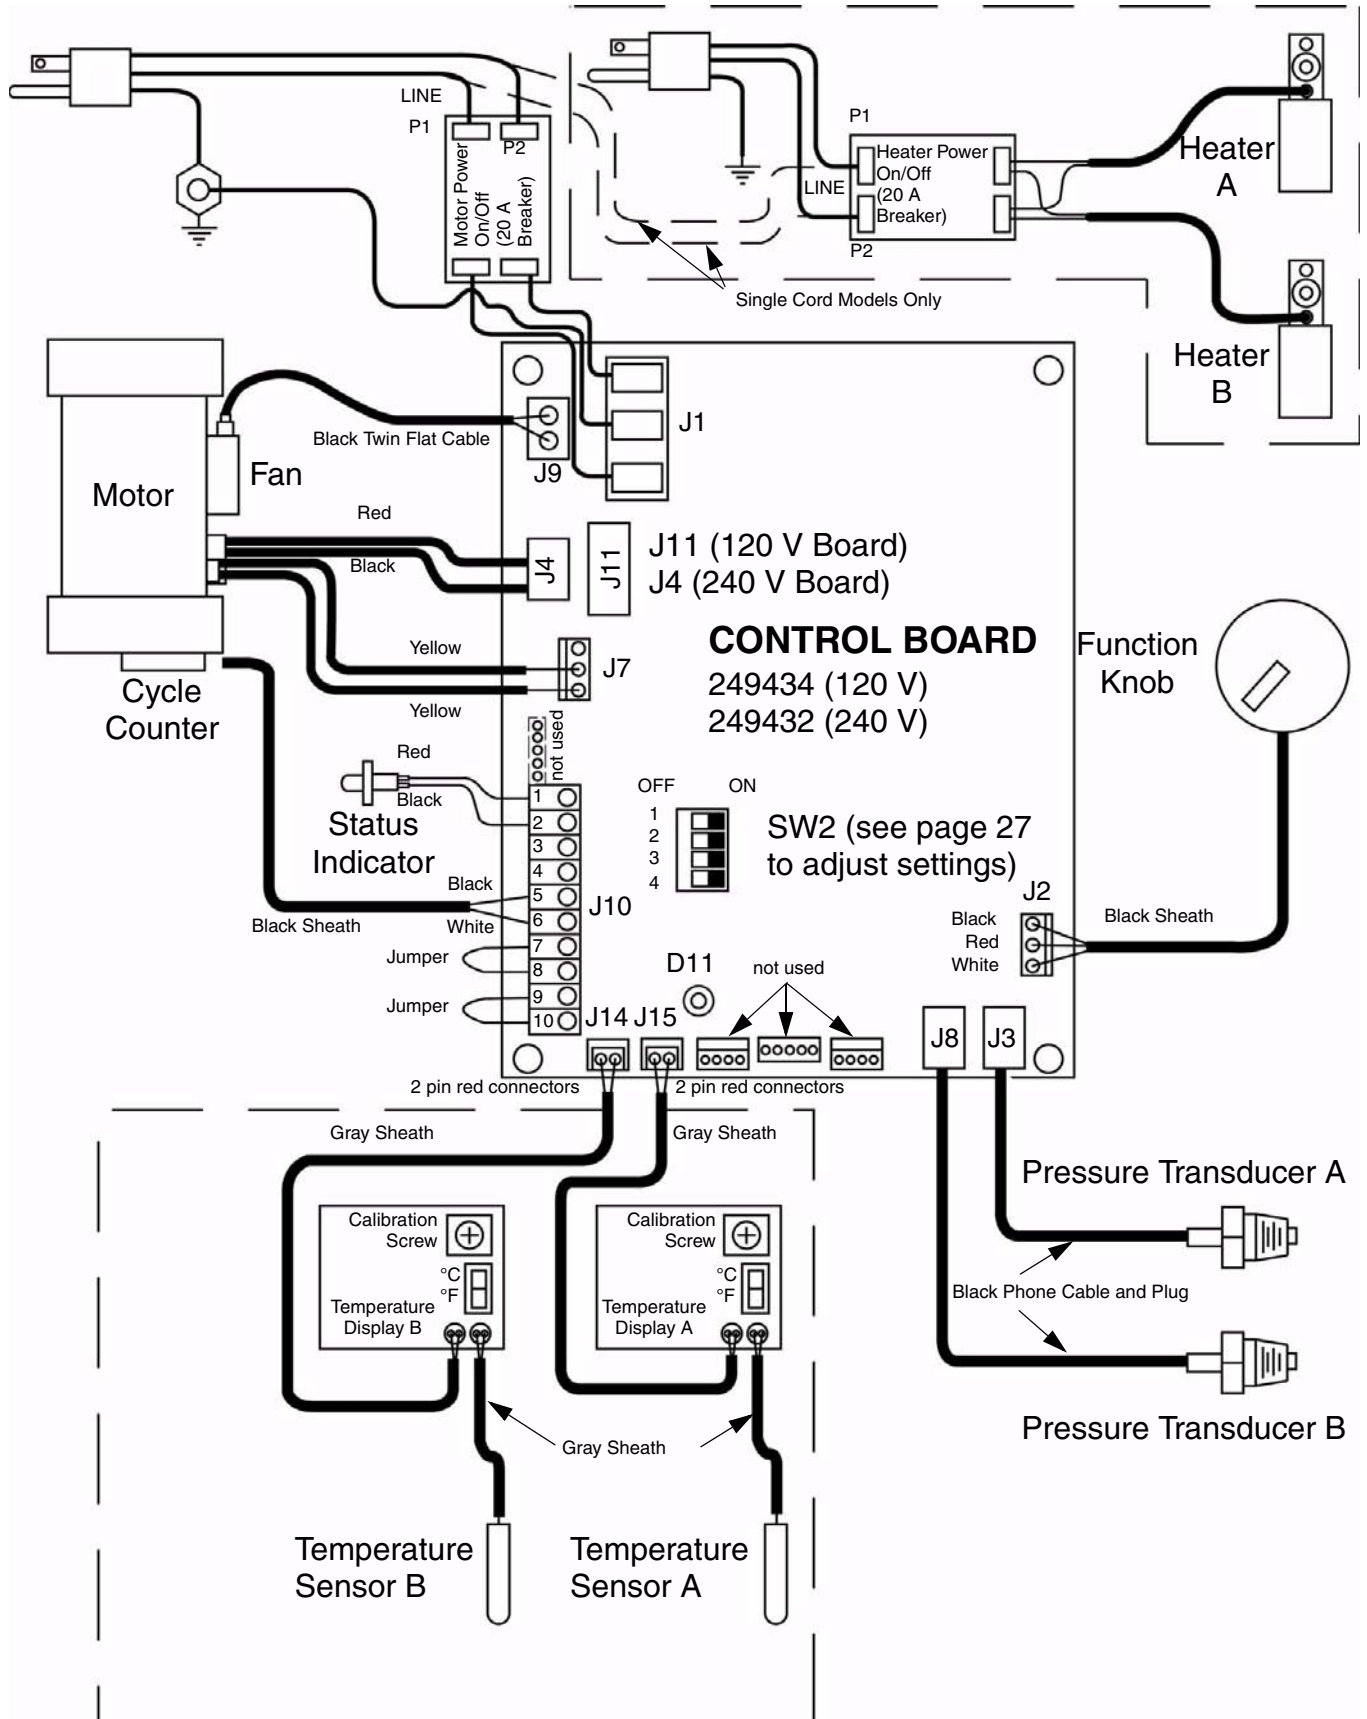

FIG. 12. Control Module Wiring Connections
7. Reconnect potentiometer wires to J2 as shown in FIG. 12.
2. Remove access cover (39) from back of control module.
3. Disconnect potentiometer wires from J2 on control board (406). See FIG. 12.
There is one red LED (D11) on the board. Power must be on to check. See FIG. 12 for location. Function is:
(see FIG. 12)
2. Remove access cover (39) at back of control module to expose control board (406).
3. Disconnect transducer cables from J3 and J8 at board; see FIG. 12, page 43. Reverse A and B connections and check if status code follows the bad transducer, page 27.
8. Connect transducer cable at board; see FIG. 12, page 43.
If motor is not locked up by pumps, it can be tested using a 9 V battery. Open recirculating valves, disconnect J4 or J11 from control board, see FIG. 12, page 43. Touch jumpers from battery to motor connections. Motor should turn slowly and smoothly.
- a. Find control board at back of control module, see FIG. 12, page 43.
1. Disconnect fan cable (75) from fan (202). With Motor Power on, test cable connector for line voltage (120 V).
2. *If voltage is correct*, fan is defective. Remove screws holding fan to shield (206). Install new fan in reverse order.
3. *If voltage is not correct*, check fan cable connection at J9 on control board; see FIG. 12, page 43.